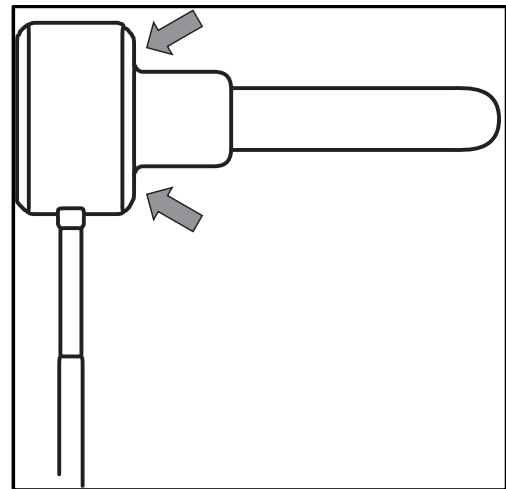

Figure 32: Sealing surface of exhaust temperature sensor
- Sealing surface must be dirt-free (see Figure 32).